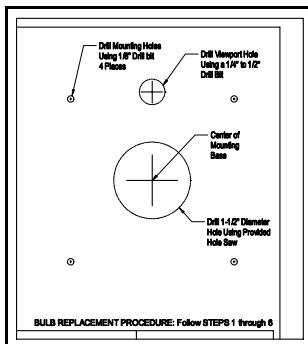

Figure 3
3. Drill 1/8" diameter mounting holes at positions indicated on template. (Refer to supplied template as shown in Figure 3)
4. Cut out the large opening on the template using a drill and the provided hole saw. (Refer to template as shown in Figure 3)
5. Using a 1/4" to 1/2" drill bit, drill view port hole as shown in Figure 3
6. Mount the Air+Health™ mounting base onto the plenum with the supplied sheet metal screws. (Refer to template as shown in Figure 3) **This must be tight in order to activate the built in safety switch.**